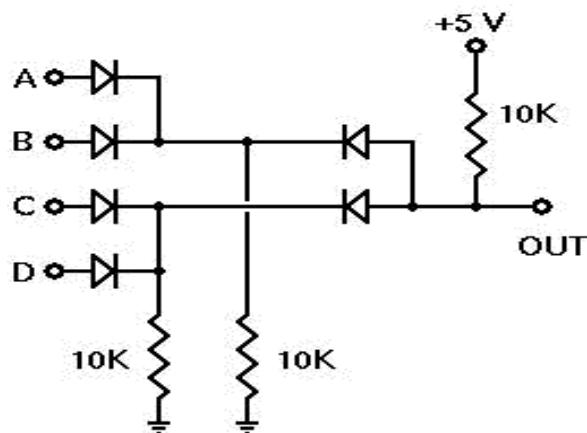

Fig.3 DL-AND-OR Gate
3. Construct the DL-AND-OR gate on your breadboard as shown in Fig. 3. Before beginning the experiment, calculate your expected results for all the different input combinations and put them